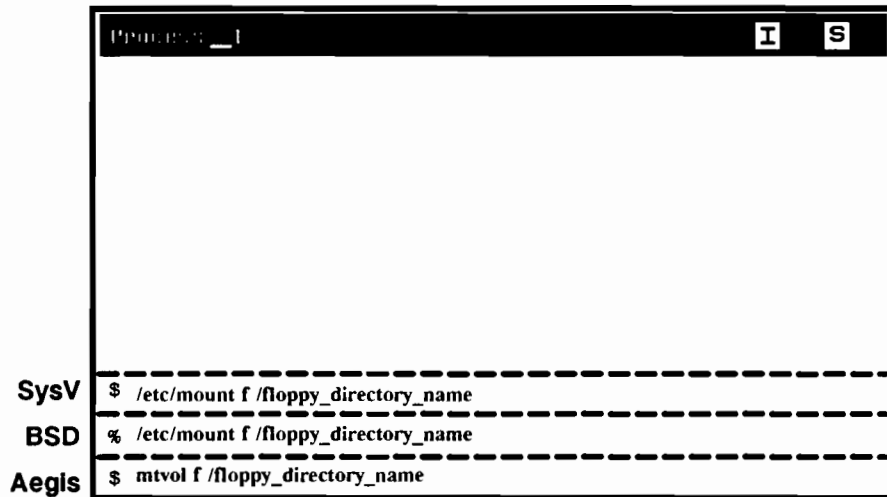

Figure 4-9. Mounting Diskettes
9. Now mount the diskette by entering the mount volume command as shown in Figure 4-9. This command makes the storage areas in the logical volume available to the operating system.